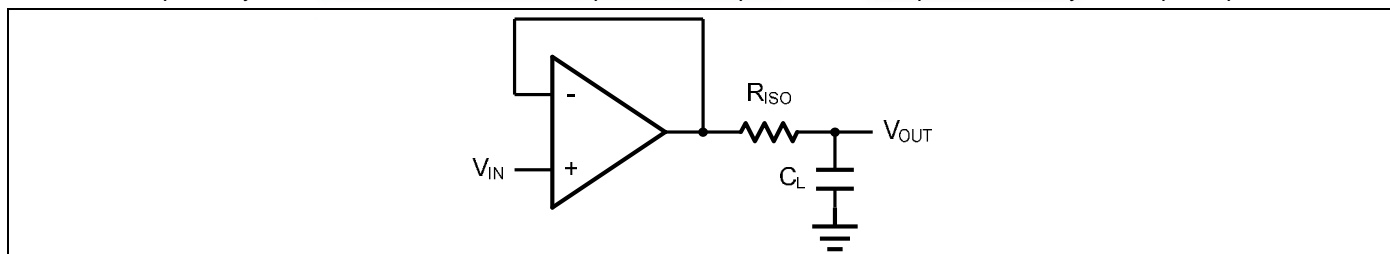
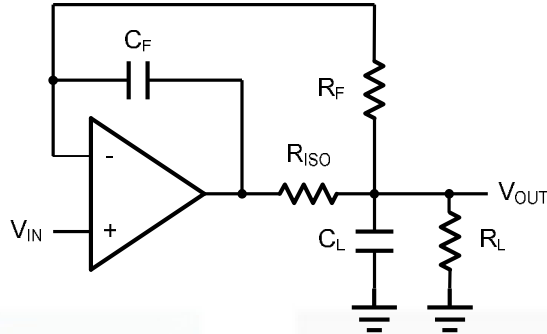

Figure 2. Indirectly Driving a Capacitive Load Using Isolation Resistor
Figure 3. Indirectly Driving a Capacitive Load with DC Accuracy
The GS8521 family is optimized for bandwidth and speed, not for driving capacitive loads. Output capacitance will create a pole in the amplifier's feedback path, leading to excessive peaking and potential oscillation. If dealing with load capacitance is a requirement of the application, the two strategies to consider are (1) using a small resistor in series with the amplifier's output and the load capacitance and (2) reducing the bandwidth of the amplifier's feedback loop by increasing the overall noise gain. Figure 2. shows a unity gain follower using the series resistor strategy. The resistor isolates the output from the capacitance and, more importantly, creates a zero in the feedback path that compensates for the pole created by the output capacitance.
The circuit in Figure 3 is an improvement to the one in Figure 2.  $R_{\text{F}}$  provides the DC accuracy by feed-forward the  $V_{\text{IN}}$  to  $R_{\text{L}}$ .  $C_{\text{F}}$